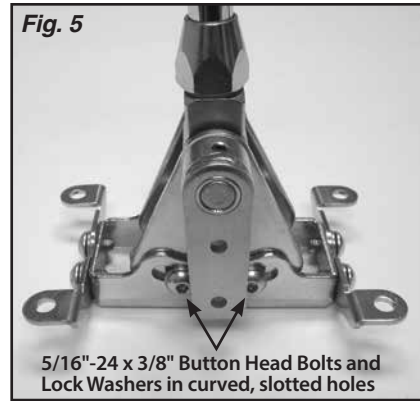

Fig. 5
**Step 4:** Make sure the two 5/16"-24 x 3/8" button head bolts that are in the curved, slotted holes in the left side of the floor mount mounting bracket are tight. Place the Shifter in the desired location on the vehicle's floor. Make sure the shifter lever will not interfere with the dash when in Park, or with the seat when in low gear. The shifter assembly may be tilted forward or backward if needed by loosening the two 5/16"-24 x 3/8" button head bolts that are in the curved, slotted holes in the left side of the floor mount mounting bracket. Retighten the button head bolts in the curved, slotted holes once you have the shifter assembly at the angle you want. Fig. 5